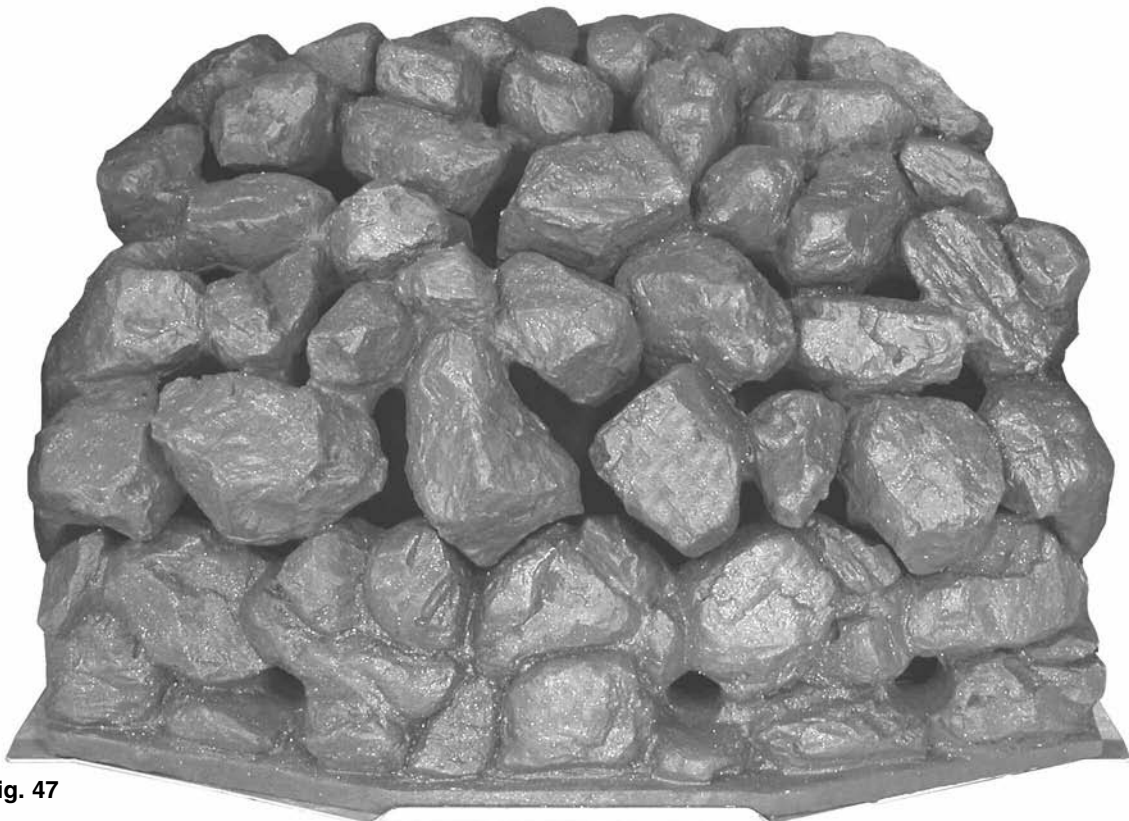

Fig. 47
5. Finally check that all the coal pieces are 'nested' together correctly (Fig. 47).